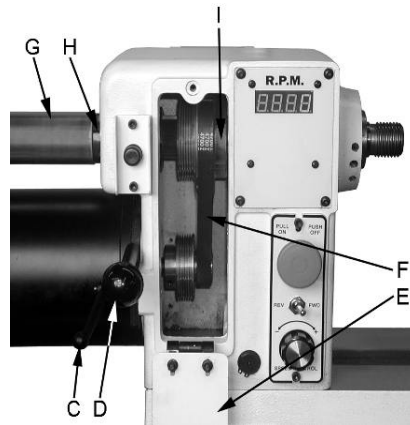

Fig 22
Open the door (E, Fig 22), and remove the belt (F) from the lower pulley.